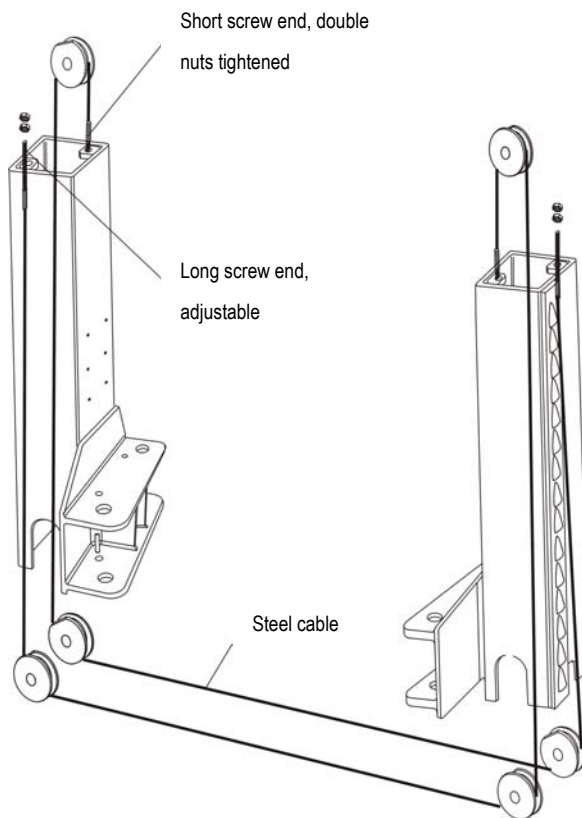
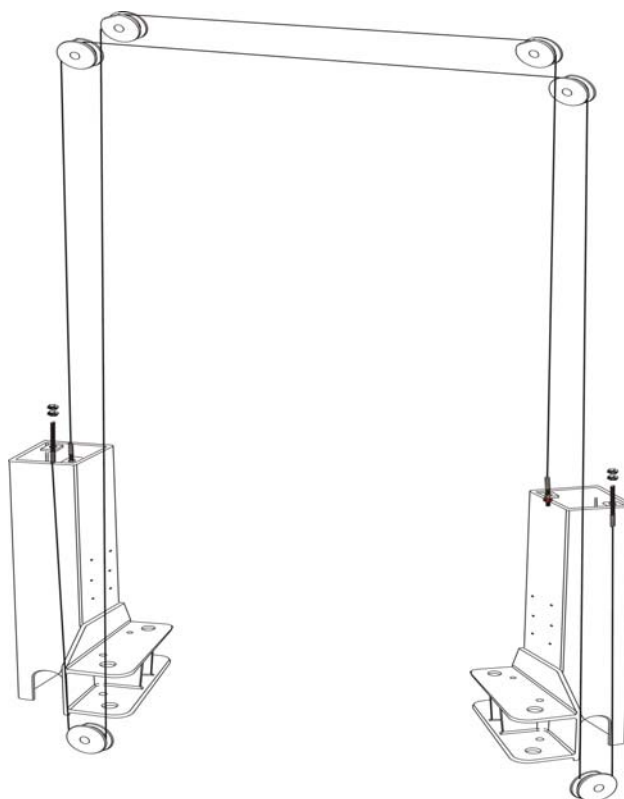

Fig 9b
Fig 9c
- Raise the two carriages to the safety locking position, make sure the two carriages are of the same height from ground. for TLT235SBA、TLT235SBA (E)、
TLT240SBA models, route the steel cables as Fig. 9b shows, for TLT240SCA、TLT235SCA (U) models, route the steel cables as Fig9c shows..